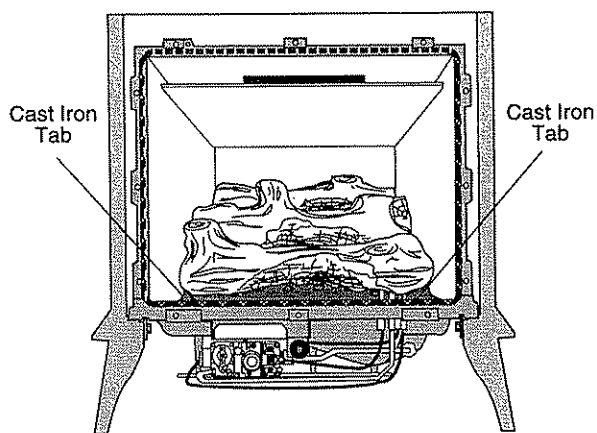

Figure 30. Align the Logset with the screws on the burner plate.
1. The logs are pre-assembled and install as a unit. Center the Log Set on the burner behind the cast iron tabs. The Logs must set tight against the top of the burner plate. Fig. 30.